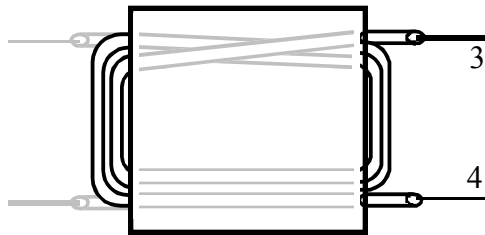

Figure 6-29
- Wind a 3-turn winding (3-4) on top of the 1-2 winding, but with the wire starting and ending on the opposite side (Figure 6-29). Use 7" (18 cm) of white insulated hookup wire.¹⁰